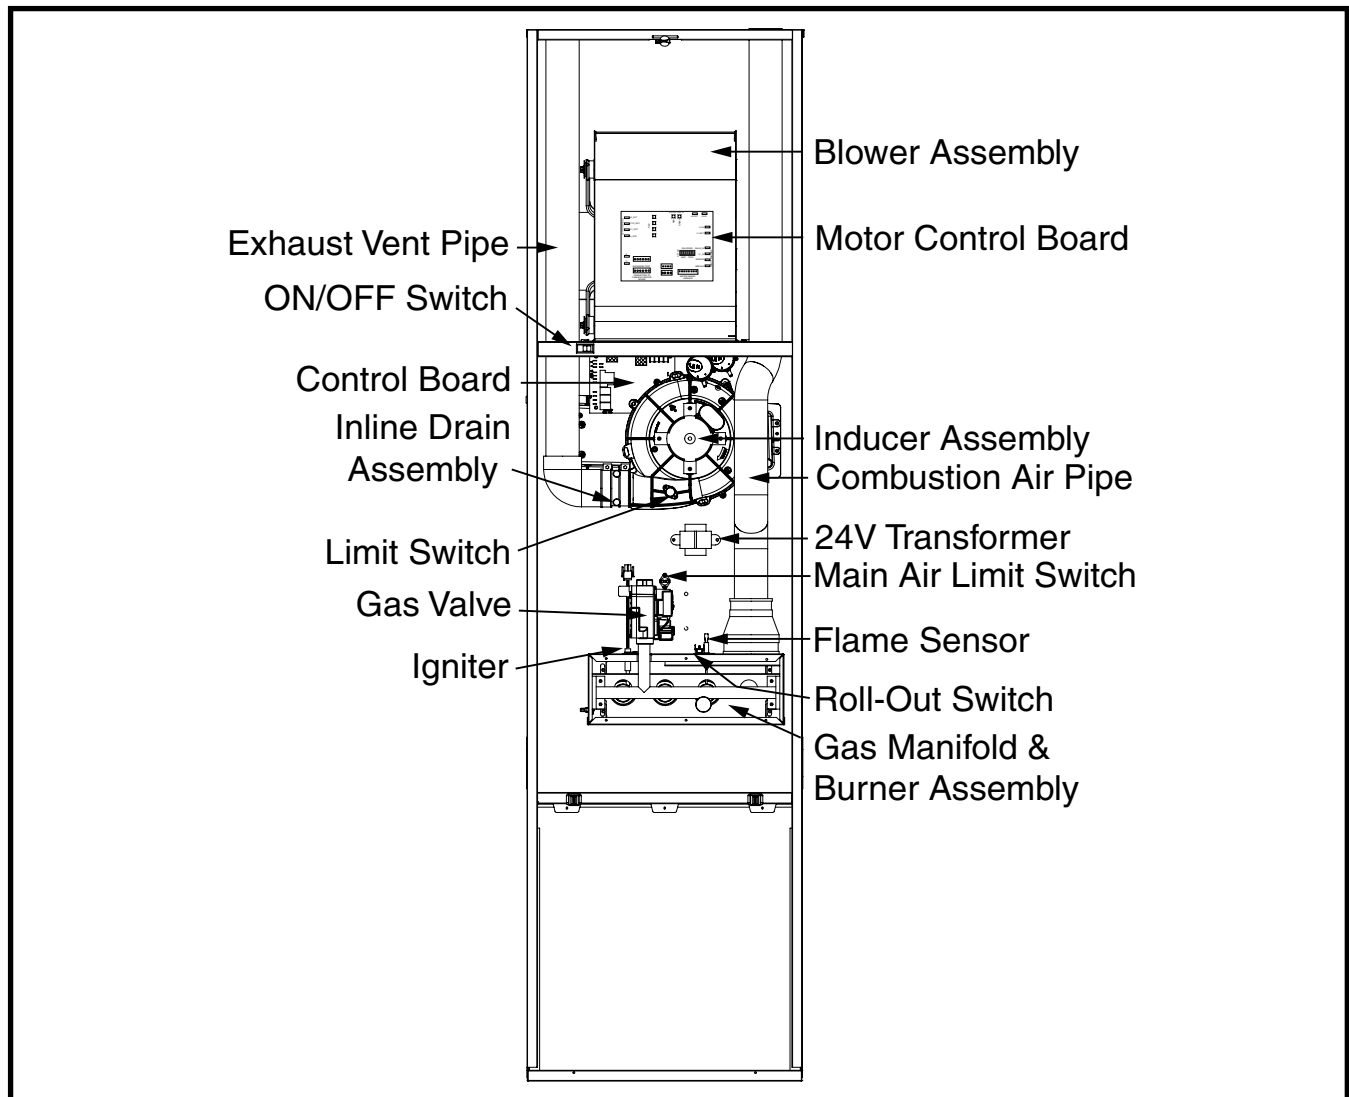

Figure 22. Furnace Components
Cleaning of Burners - If the burners must be cleaned, follow steps 1-12. For component locations see Figure 22 \(page 28\).
- If the inducer blower is operating, and items above have been verified, check the blower limit switch and reset if necessary. For component locations see Figure 22 \(page 28\).
The descriptions below are various functional components that affect the operation and shutting down of this furnace. Some of these components and their locations are shown in Figure 22. If any component of the furnace must be replaced, use only factory authorized replacement parts specified in the Replacement Parts List provided online.